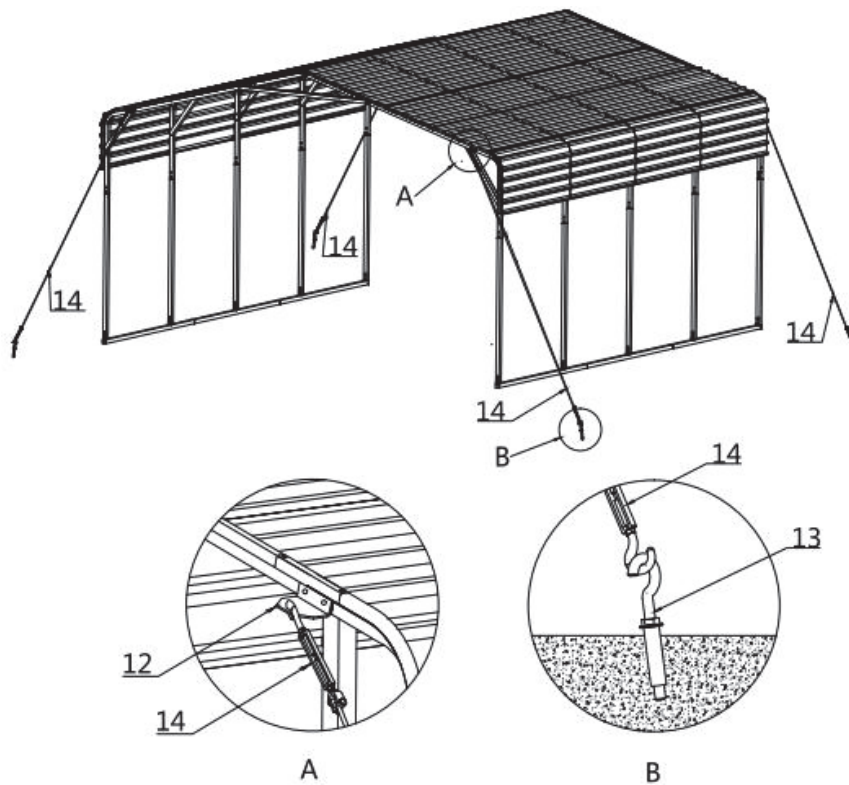

Figure 14
- Select a suitable position to fix the expansion bolt of the draw hook on the ground, hook one end of (#14) Steel cable to (#12) Steel cable mounting plate, and fix the other end to (#13) Anchor hook of the draw hook, adjust the nut on the steel wire rope to tighten the steel wire rope (refer to Figure 14).
- (4) Anchor hook (#13)